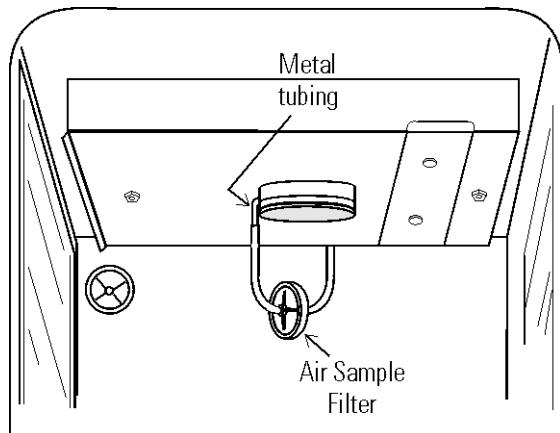

Figure 5-8. Connect to Metal Tubing
4. Figure 5-8 shows the location of the fuse. See Table 5-1 following for replacement fuse specifications.
2. Connect the other end of the filter to the metal tubing on the HEPA filter adapter (Figure 5-8).